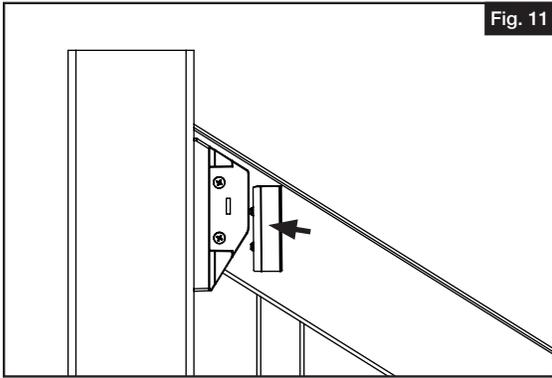

Fig. 11
**10** Match letter on inside of bracket cover to the letter on bracket, and snap cover in place (Fig. 11). Repeat for all brackets.